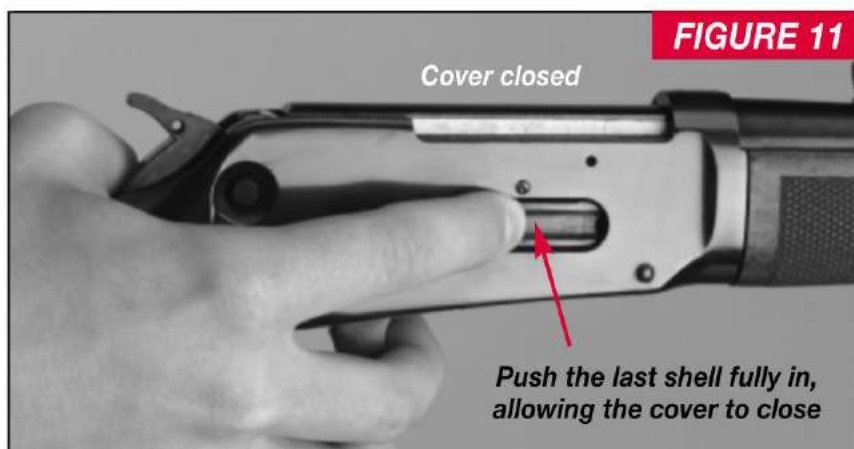

FIGURE 11
3. Repeat this procedure with each shell, pushing the last shell past the end of the spring cover, allowing the cover to snap closed (Figure 11). Do not exceed the recommended capacity of the magazine. With practice, the shell can be inserted until only the rim is exposed and the spring cover is depressed to aid in loading the next shell.